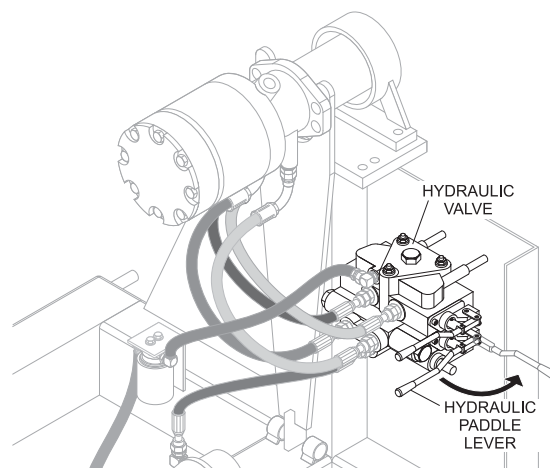

Figure 23. Hydraulic Paddle Lever
1. On the hydraulic valve, push lever inward (Figure 23) for clockwise mixing rotation of blades.